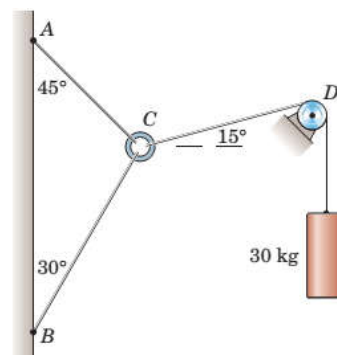

Fig.2
- f) Three cables are joined at the junction ring C as shown in Fig 2. What will be the tension in cable AC caused by the weight of the 30-kg cylinder hanging through frictionless pulley D.